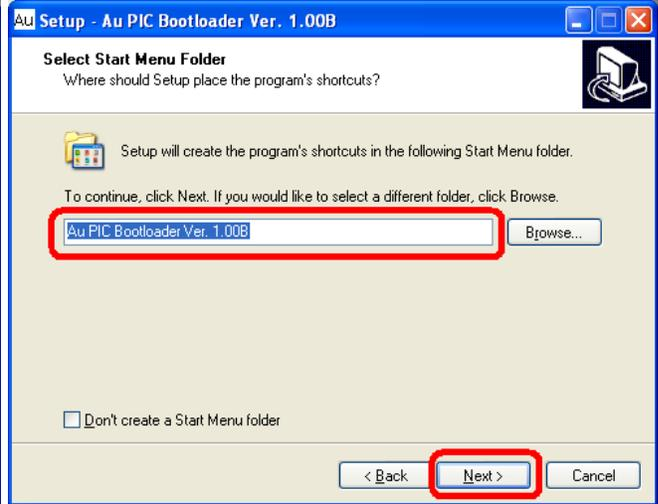

Figure B-5
5. “Select Start Menu Folder” window show up, use default setting “AU PIC Bootloader”, then click “next” (Figure B-5).